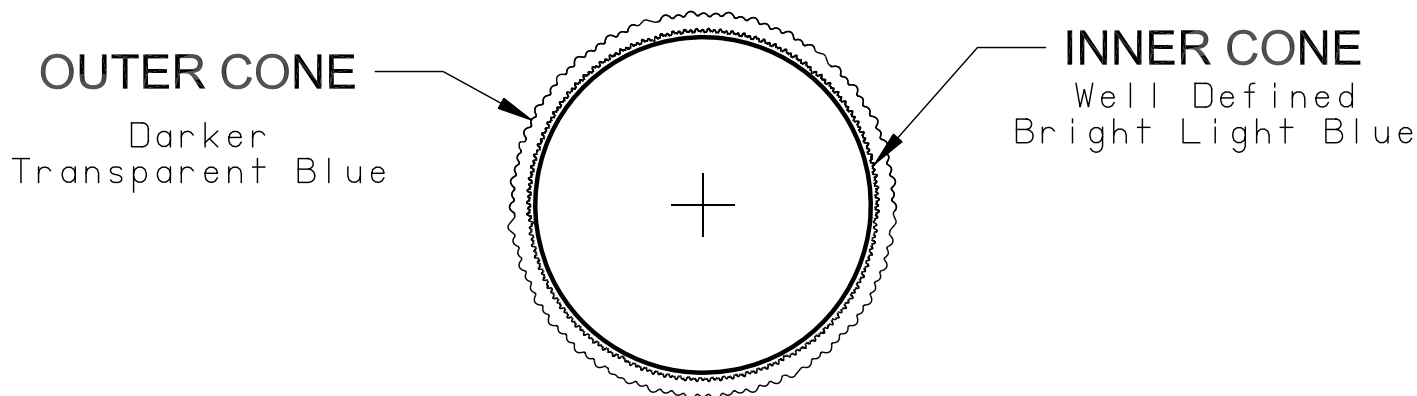

Figure 11.2: Burner Flame
14. Inspect the flame which is visible through the window. On high fire the flame should be stable and mostly blue (Figure 11.2). No yellow tipping should be present; however, intermittent flecks of yellow and orange in the flame are normal.